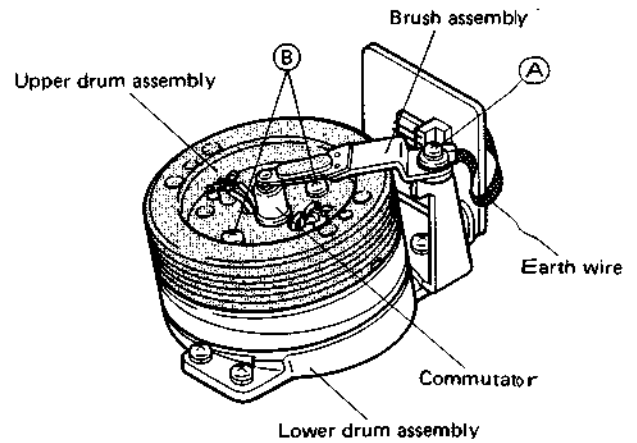

Fig. 4-8 Upper drum replacement
1. Take out screw (A), disconnect the earth wire and remove the brush assembly. See Fig. 4-8.